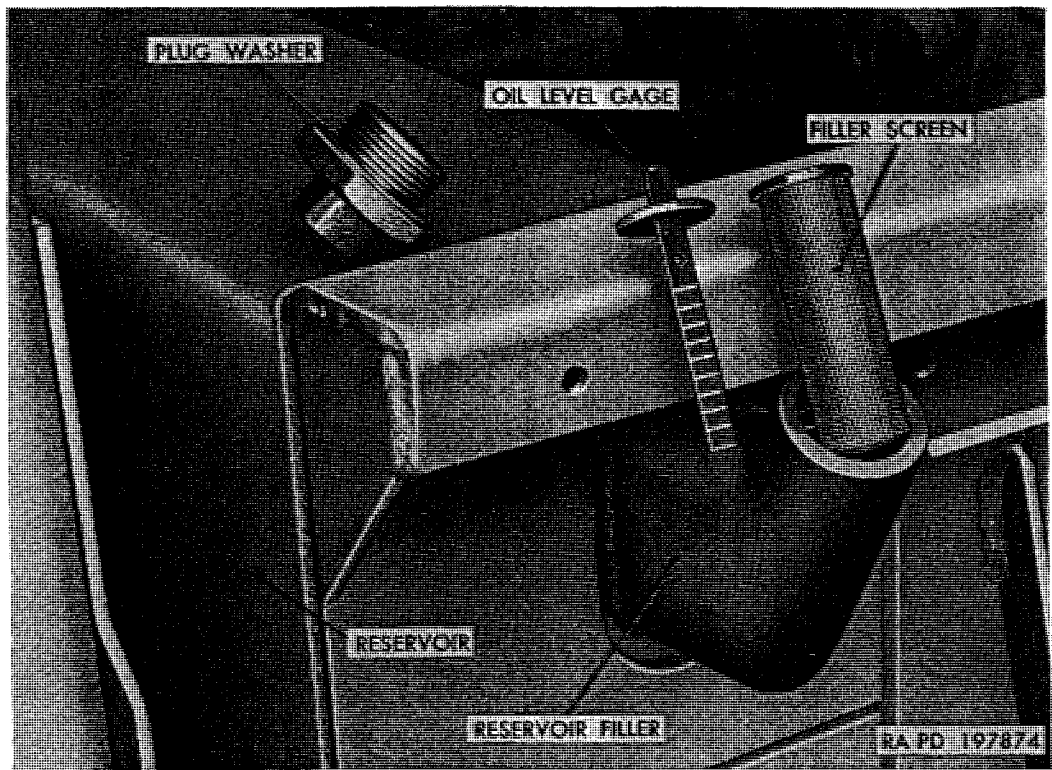

Figure 349. Hoist fluid reservoir filler cap, gage, and screen.
b. Checking Fluid Level. Remove fluid reservoir filler plug and gasket at left side of reservoir; then remove level gage and screen from reservoir filler (fig. 349). Clean filler screen of accumulated foreign matter; then replace in filler. Check fluid level in tank, using level gage. Replenish fluid, if necessary, until level is within two marks of top mark on level gage (fig. 349) when body is down, or at center of level gage when body is raised. Refer to lubrication chart (par. 69) for type of fluid and checking intervals.